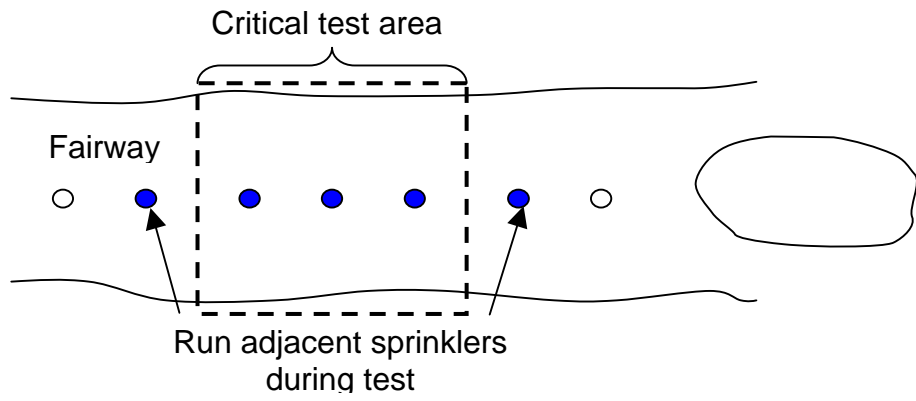

Figure 1. Fairway Single Row Sprinkler Test Area
- Catchment spacing shall be either 20 feet x 20 feet or 25 feet x 25 feet in one of the configurations shown in figures 1, 2, and 3 on page 22.